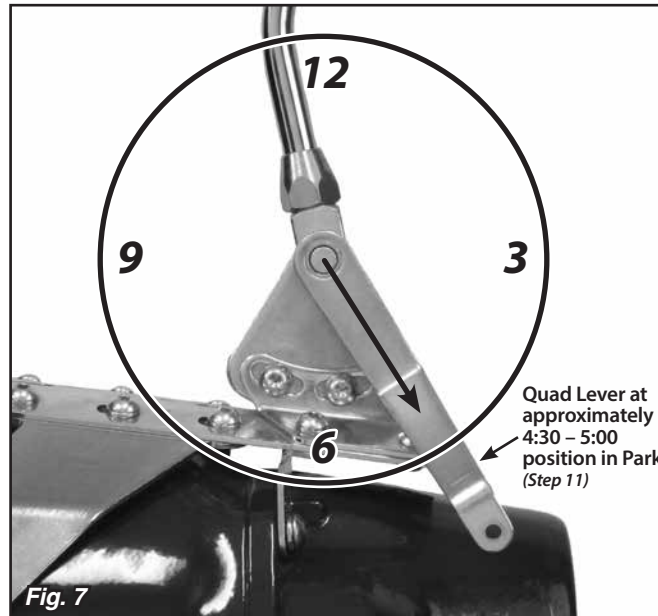

Fig. 7
Step 11: Put the shifter lever into the Park position and check the position of the quad lever. It will need to be pointing to about the 4:30 – 5:00 position. If it is not, loosen the set screw in the top of the quad lever with a 1/8" Allen wrench and slide the quad lever off of the shaft. Reposition it on the shaft at approximately the 4:30 – 5:00 position, and retighten the set screw. **Fig. 7**